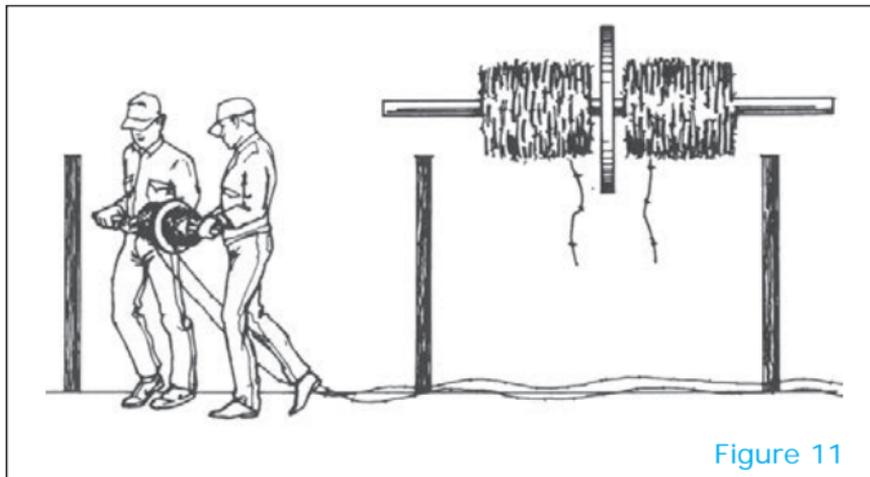

Figure 11
2. Unroll no more than two strands at a time. Pay out wire on the side of pressure. Work one span at a time between braces. Unroll the reels as pictured in (Figure 11) with the wire being paid out from the bottom.